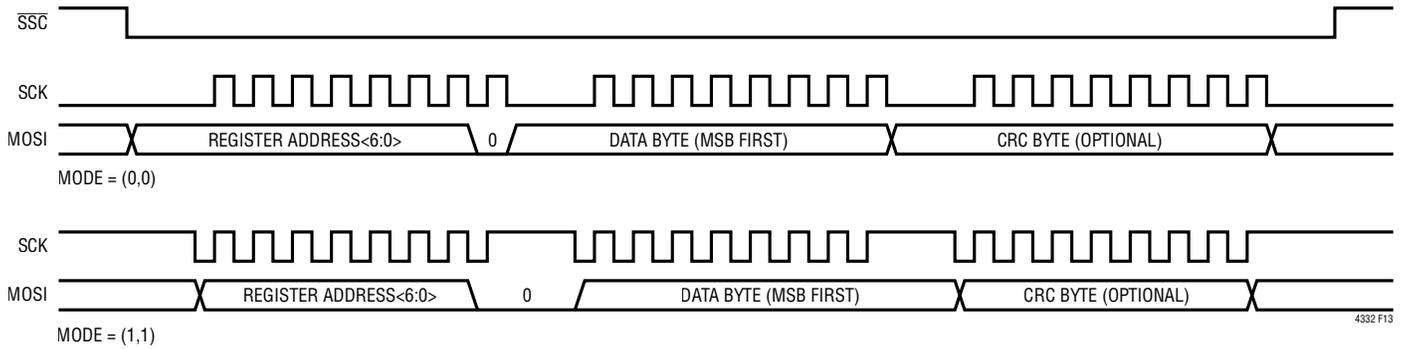
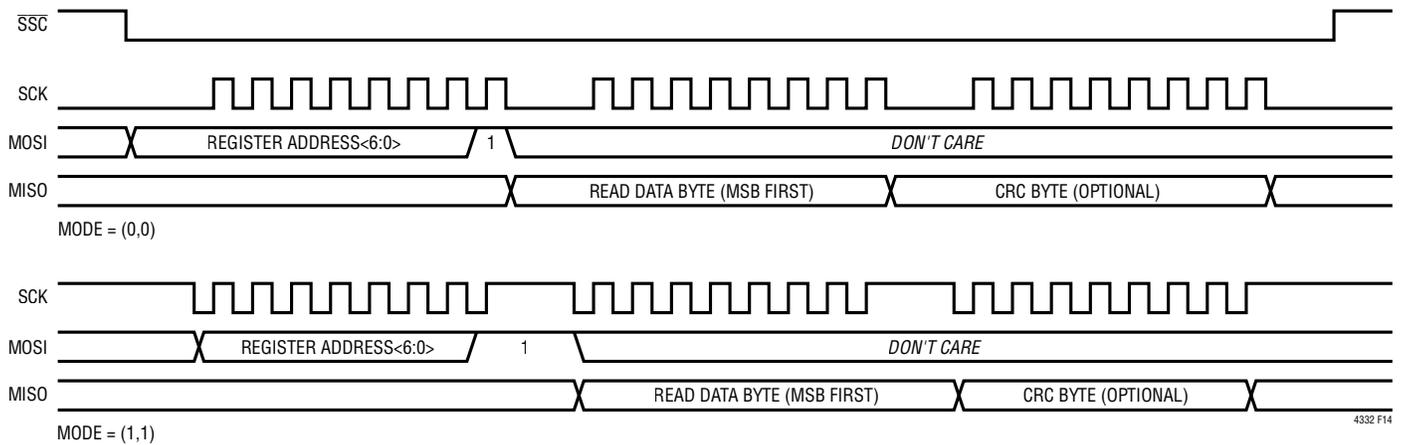

Figure 13. Control Interface Write Transfer
Figure 14. Control Interface Read Transfer
The LTC4332 provides a separate slave select pin,  $\overline{\text{SSC}}$ , that allows a user to access the internal control interface for configuration and monitoring. The interface supports SPI modes (0,0) and (1,1) only. Read and write accesses are shown in Figure 13 and Figure 14. The bit order is MSB first. The first byte includes the register address in bits <7-1> and a read(1)/write(0) bit in the LSB. Only single data byte accesses per transfer are supported. Programmed values are retained while  $V_{\text{CC}} \geq 3.0\text{V}$
- IEC 61000-4-5 Surge Level 4:  $\pm 5$ kV (line to GND, line to line, 8/20 $\mu$ s waveform, each line coupled to generator through 80 $\Omega$  resistor per Figure 14 of the standard)